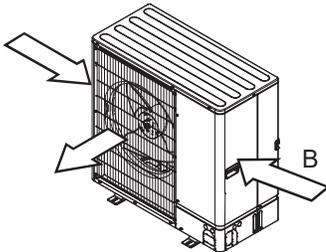

Fig. 2-5
(3) Position the unit so that the air outlet blows perpendicularly to the direction of the wind. (Fig. 2-5)